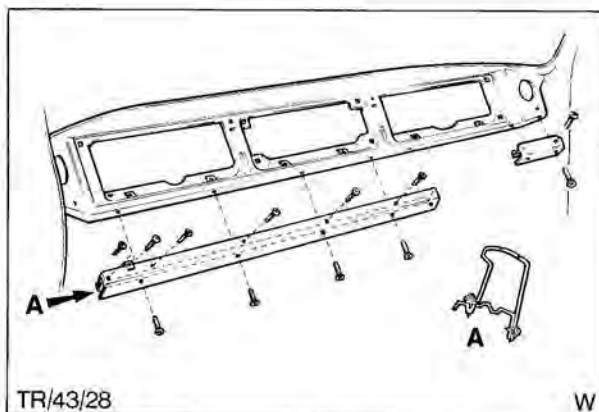

Fig. 24. Crash pad assembly to body
2. Remove screws from pad, Fig. 24, and lift pad off instrument panel.